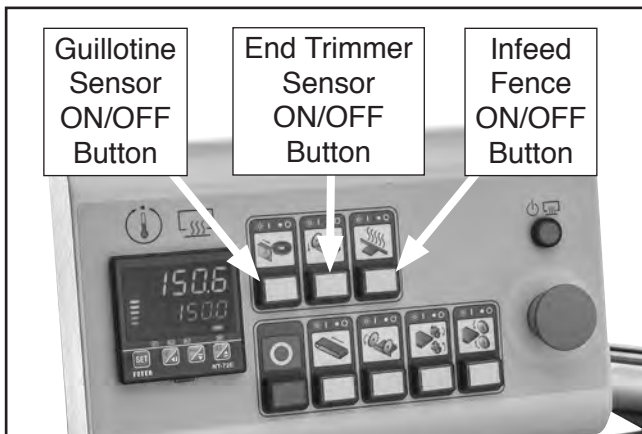

Figure 41. Guillotine sensor, end trimmer sensor, and infeed fence ON/OFF buttons.
9. Press guillotine sensor ON/OFF button (see **Figure 41**); button should illuminate, indicating sensor is activated. Press button again; button should darken, indicating sensor is no longer activated.
10. Perform same activation test (**Step 9**) for end trimmer sensor (see **Figure 41**).
11. Press infeed fence ON/OFF button (see **Figure 41**); button should illuminate, indicating fence is heating up. Press button again; button should darken, indicating fence is no longer heating and has begun to cool down.